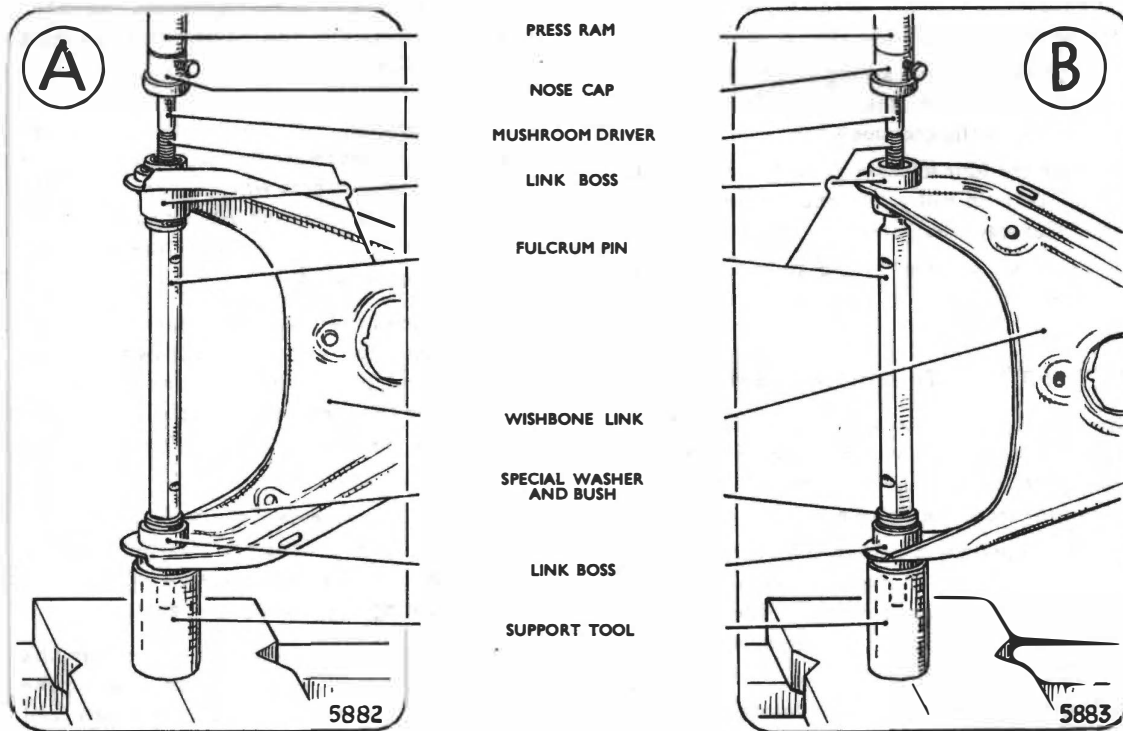

Fig. 31 Illustrating method of removing bushes from the links in a workshop press using special tool RG. 318
#### To remove link bushes (Fig. 31)
8. Proceed to remove the bush from the opposite side of the link. The procedure is similar to the first link but it will be necessary to temporarily refit the fulcrum pin with one of the special washers positioned between the link bush and the shoulder of the fulcrum pin, see Fig. 31 at "B."